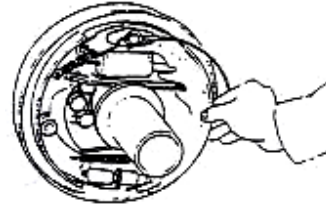

Figure 2-19
(4) Remove the main and auxiliary brake shoes. And also remove the regulator and the regulator spring. See figure 2-19